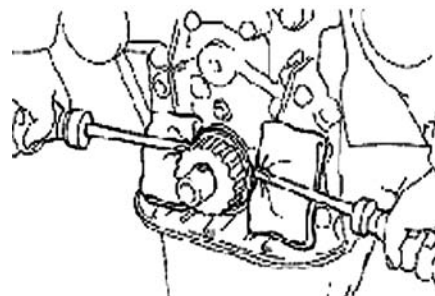

Figure 74
See (Figure 74)
3. Detach crankshaft timing pulley. See (Figure 74)